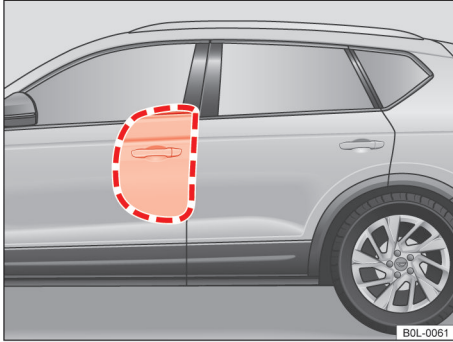
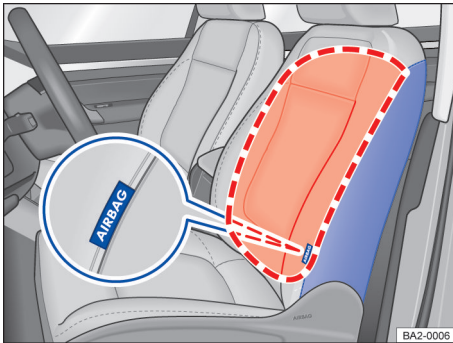

Fig. 31 Left side of vehicle: Expansion range of side airbag
Fig. 32 Left front seat side: side airbag installation position and expansion range
Depending on vehicle equipment, front seat can be equipped with side airbag → Fig. 31:
- Front seat side airbags are installed in the driver seat and front passenger seat outboard backrest upholstery → Fig. 32.
→ Fig. 31 and → Fig. 32 The area surrounded by the red line in the two Figures is the range of action when the side airbag is activated and expands (the expansion zone). Therefore, no items shall be stored or secured in this area → ⚠️.